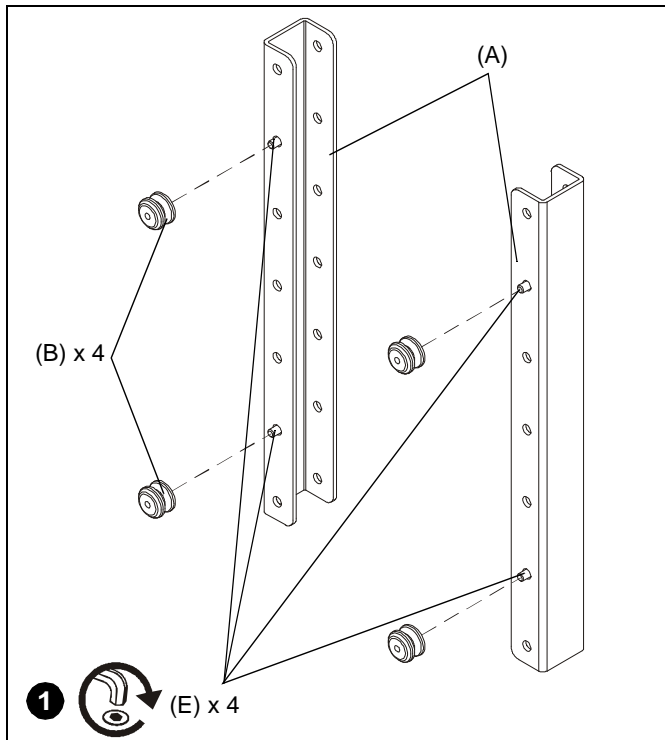

Figure 1
1. Attach mounting buttons (B) to interface brackets (A) using four 10-24 x 1/2" button head cap screws (E) and the 1/8" hex key (G). (See Figure 1)